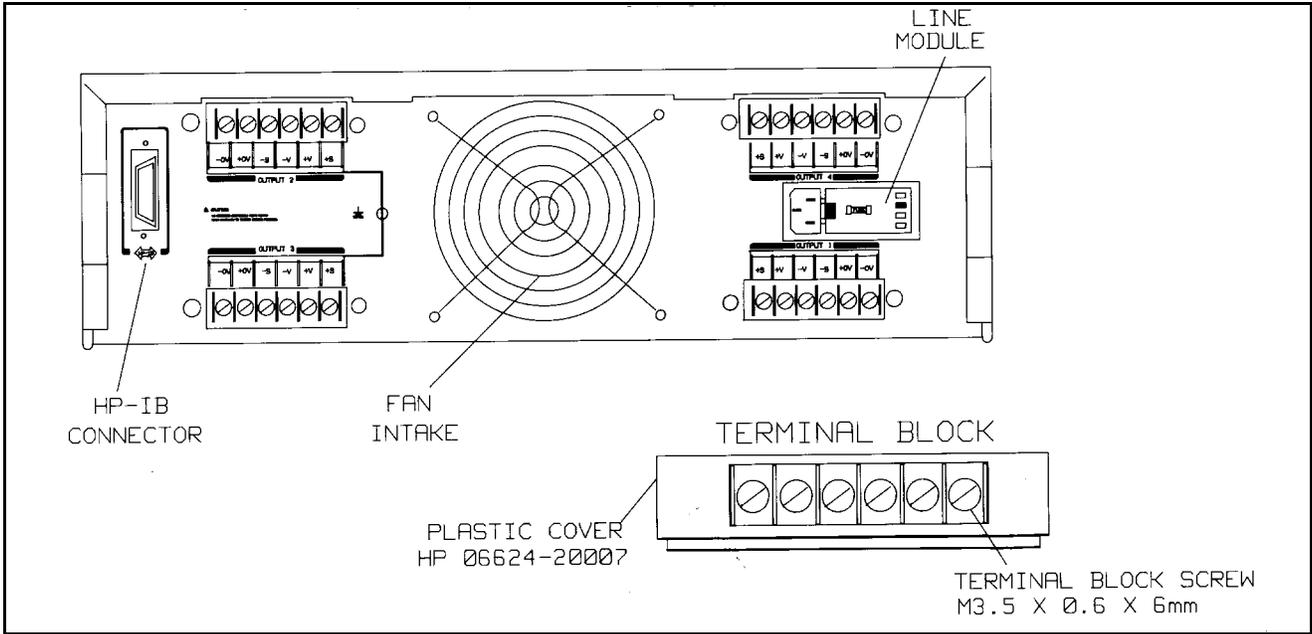

Figure 2-2. Rear Panel Detail (6624A Shown)
You can operate this power supply from a nominal 100 V, 120 V, 220 V or 240 V single phase power source at 47 to 66 Hz. The input voltage range, maximum input current, high line inrush current (PK), and the fuse required for each of the nominal inputs are listed in Table 2-1. You can check the line voltage setting of your supply by examining the door on the line module. This is located on the rear panel of your supply as shown in Figure 2-2.
The HP-IB connector on the rear panel connects your power supply to your computer and other HP-IB devices (see Figure 2-2). Chapter 1, page 12 lists the cables and cable accessories that are available from Hewlett-Packard. An HP-IB system can be connected together in any configuration (star, linear, or both) as long as the following rules are observed: